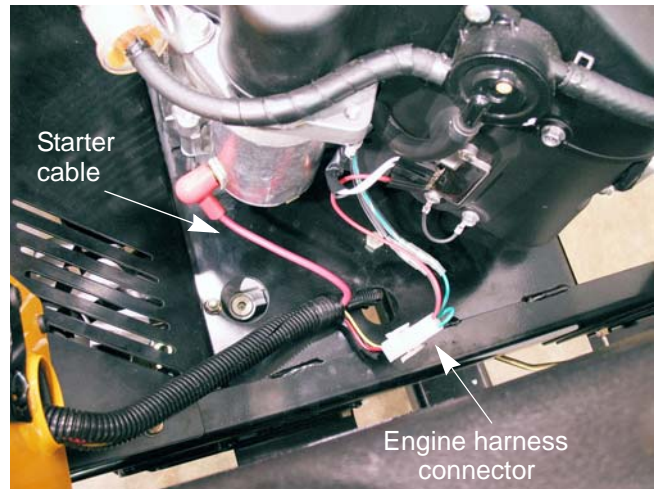

Figure 4.8
6. Disconnect the engine harness from the main harness. See Figure 4.8.
7. Disconnect the starter cable. See Figure 4.8.